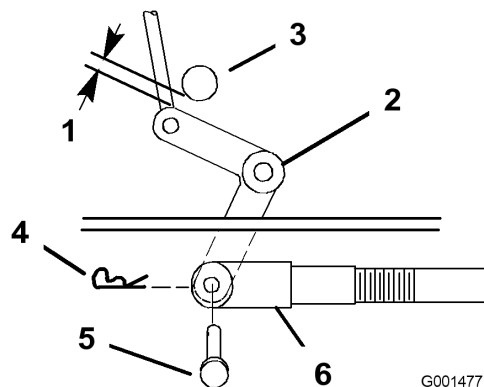
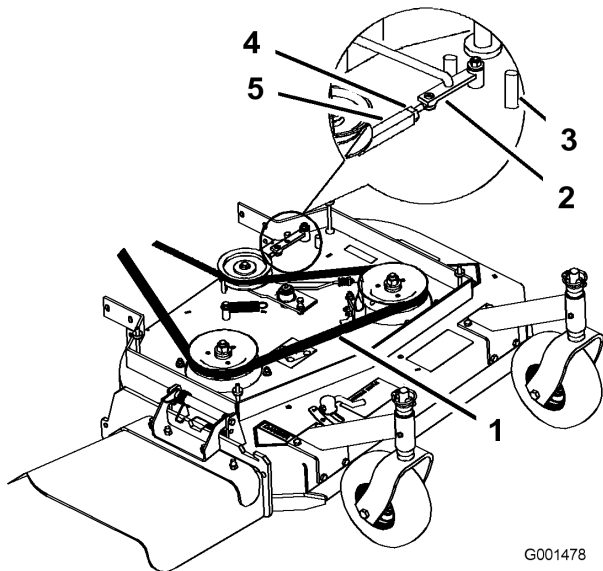

Figure 49
Figure 50
11. Rotate the clevis clockwise on the rod to increase the clearance; rotate it counterclockwise to decrease it (Figure 49).
Note: If the assist arm does not contact the front stop on the mower deck (Figure 50), adjust the clevis to bring the bell crank closer to the transmission output shaft (Figure 49).
9. Check the clearance between the bell crank and the transmission output shaft (Figure 49).
3. Loosen the locknut on the turnbuckle (Figure 50).
4. Rotate the turnbuckle toward the rear of the mower to increase the tension on the belt. Rotate the turnbuckle toward the front of the mower to decrease the tension on the belt (Figure 50).